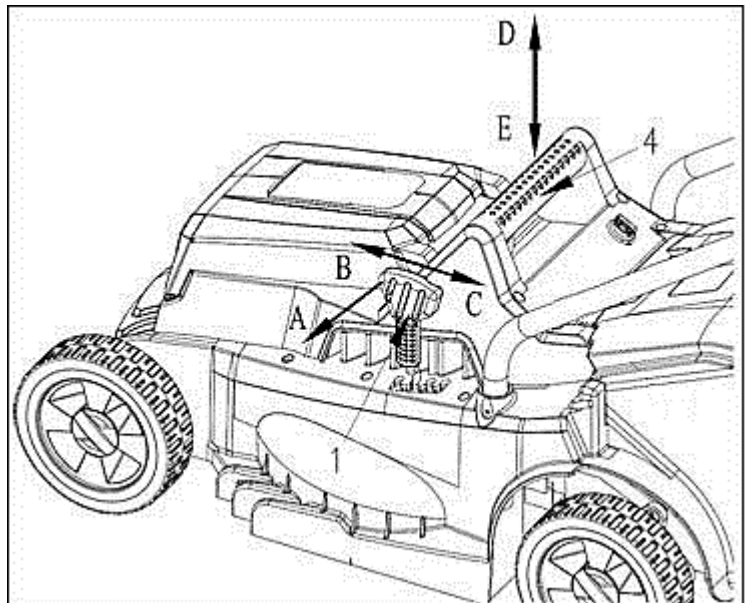

Fig. 4
- **To raise** the blade height, grasp the adjust handle (**Fig.4 No.1**), pull in direction A, then grasp the handle (**Fig.4 No.4**) with one hand, **lift** the handle in direction D to suitable position, then release the adjust handle.
- **To lower** the blade height, grasp the adjust handle (**Fig.4, No. 1**), pull in direction A, then grasp the handle (**Fig.4, no. 4**) with one hand. **Press** the handle in direction D to suitable position, then release the adjust handle.
To start the mower again, please remove all obstacles, and wait about 3 minutes , then press the red button of the circuit breaker (**Fig.4 No.2**). The machine can be start normally.